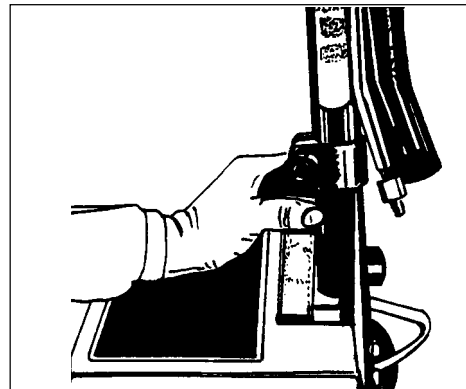

Figure 6
11. Raise the handle and align the holes. See figure 6.